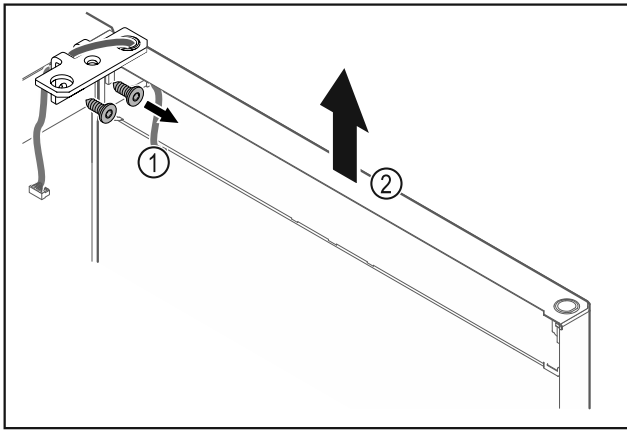

Fig. 45
- Unscrew the hinge Fig. 45 (1).
- Lift the door with the hinge straight up by Fig. 45 (2) roughly 200 mm and take it off.